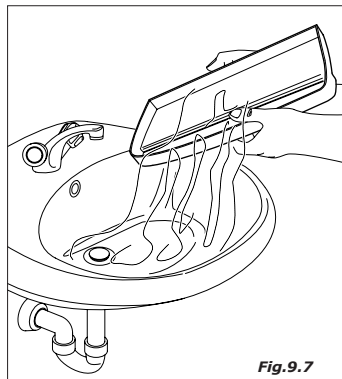

Fig.9.7
- empty the waste liquids bin clean it and/or substitute it (Fig. 9.7).